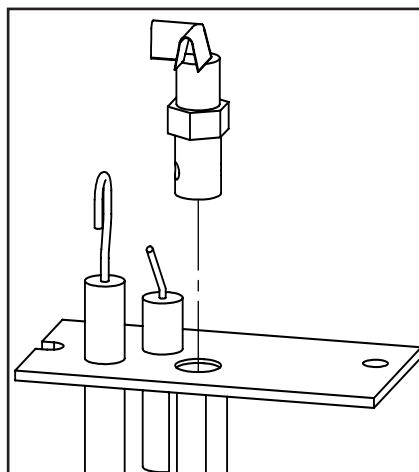

Figure 9: Pilot Orifice
- Convert the existing pilot orifice with the one provided in this kit (see Figure 9) using a **7/16" wrench**. Fully unscrew and remove the pilot head and replace the orifice insert, bell end down. Re-install and tighten the pilot, if the head does not reach proper orientation in the snug position then contact your Enviro dealer.